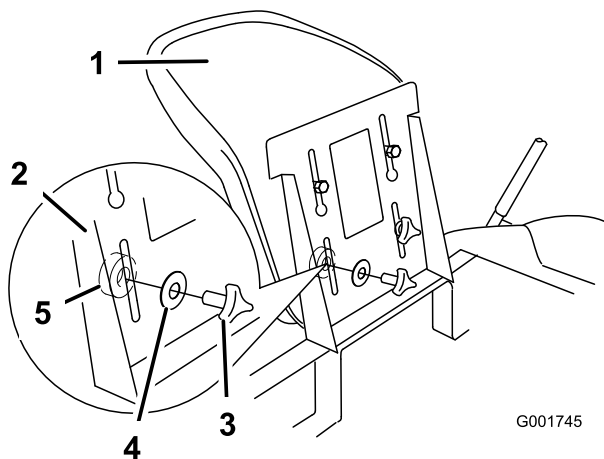

Figure 6
- Secure the seat to the seat support with the spacers, flat washers (5/16 inch) and knobs (Figure 6).
Important: Make sure the spacers are between the seat and support, and the knobs pass through the washers, seat support, spacers and into the seat (Figure 6).